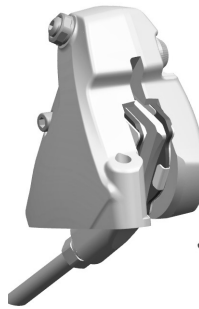

Fig.21
- If you need to remove the wheels from the bike, ensure that you have inserted the transport tool (Fig. 21/22) which prevents the brake pads from coming together if the brake lever is accidentally engaged, making it impossible to insert the disc. If this occurs, consult a qualified mechanic or a Campagnolo Pro Shop to have this issue rectified.